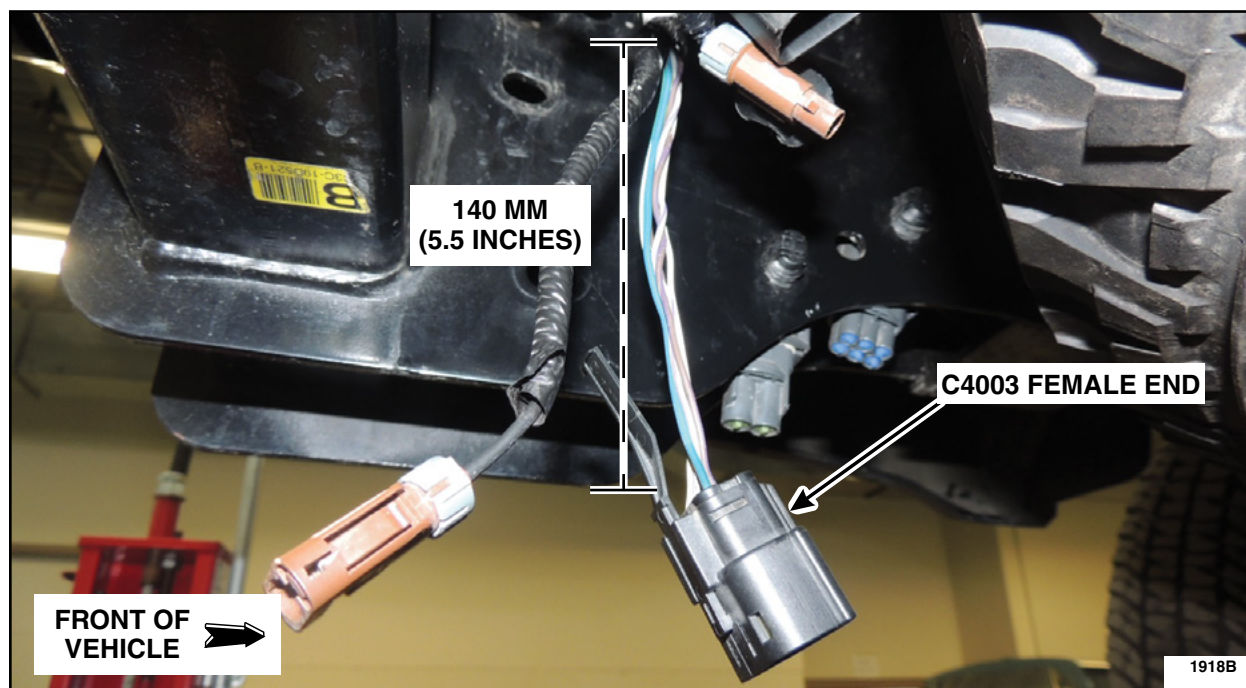

FIGURE 4
7. Remove the tape and convolute back 140 mm (5.5 in) from the back of the female end of C4003. See Figure 4.